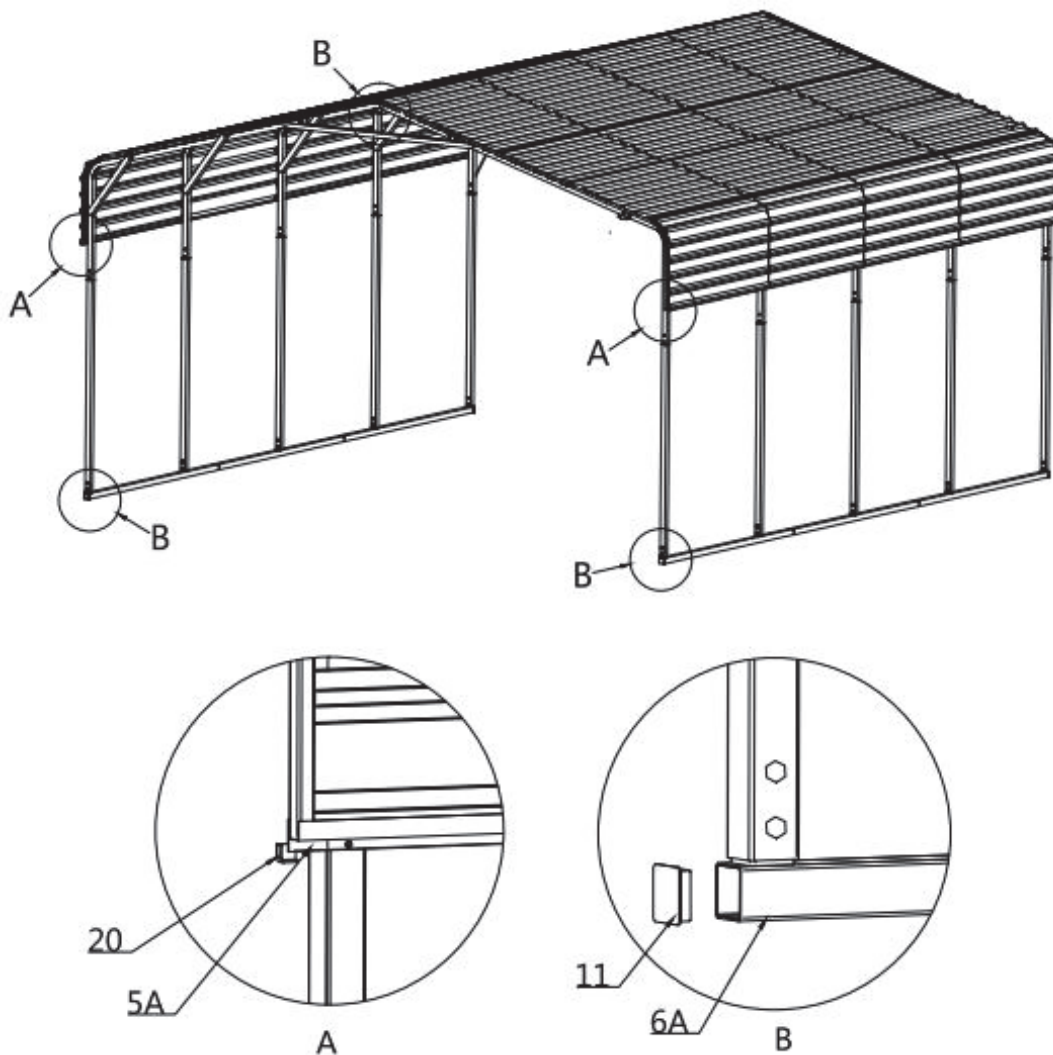

Figure 13
- Put the waterproof plug into the square pipe head. Tear the 3M adhesive protective film on the anti-collision angle and paste the anti-collision angle to one end of the (#5A) side edge crossbar. The front and rear installation methods are the same (refer to Figure 13).
- (6) Water plug (#11)